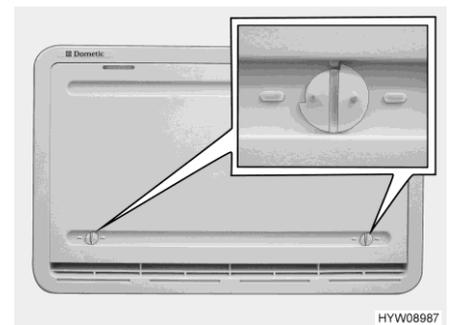

Fig. 143 Winter cover (refrigerator ventilation grill)
The winter covers (Fig. 143) protect the cooling unit against cold air. Place winter covers in front of both refrigerator ventilation grills when the external temperature falls below +10 °C (both for gas and electrical operation).
- Open both locks (Fig. 143) (groove in horizontal position).